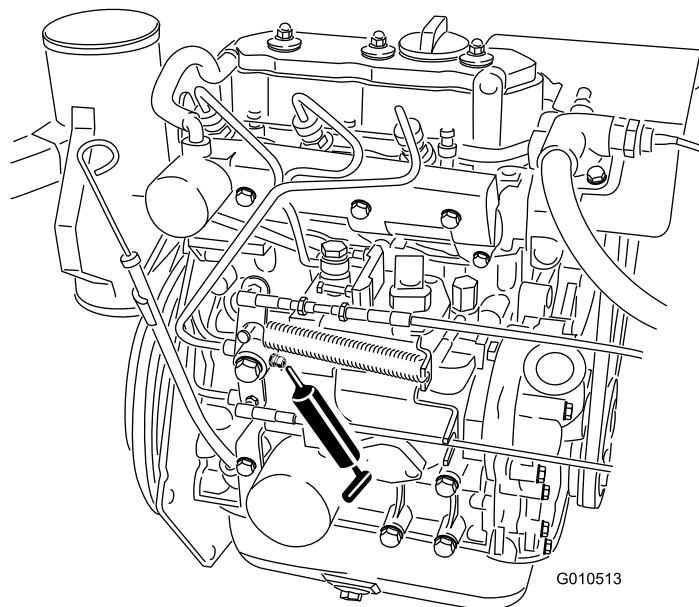

Figure 36
- Accelerator arm (1) (Figure 36)